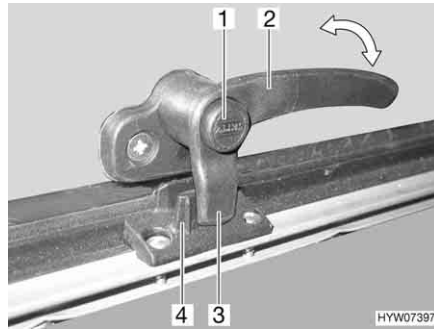
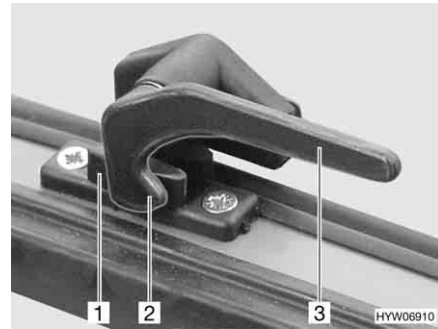

Fig. 97 Catch lever with safety knob in "closed" position
Fig. 98 Catch lever in "closed" position
- Press and hold the security button (Fig. 97, 1), if present.
- Turn the catch lever (Fig. 97, 2 or Fig. 98, 3) a quarter turn towards the centre of the window.
- Turn the catch lever (Fig. 97, 2 or Fig. 98, 3) a quarter turn towards the window frame. The locking catch (Fig. 97, 3 or Fig. 98, 2) on the catch lever is entirely on the inner side of the window catch (Fig. 97, 4 or Fig. 98, 1).
- Firmly closed (Fig. 97 and Fig. 98)